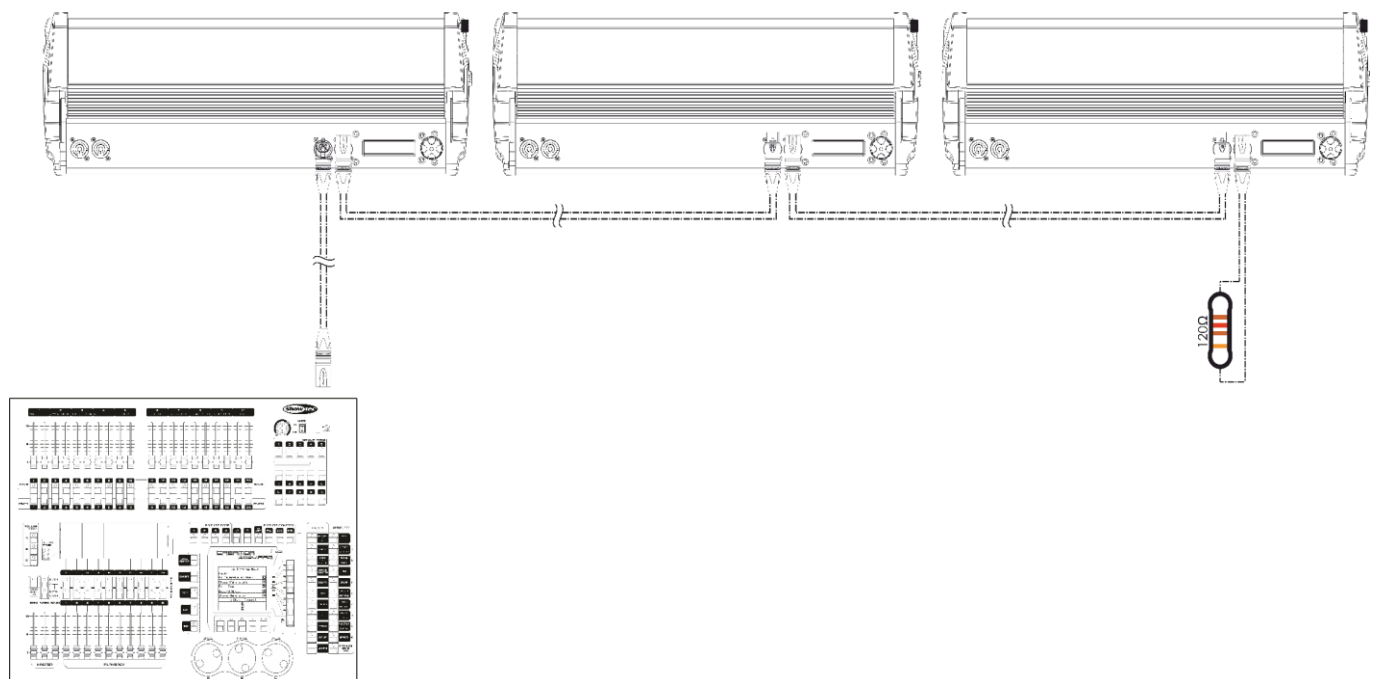

Fig. 12
- 05) Link the units as shown in fig. 12. Connect a DMX signal cable from the first unit's DMX "out" socket to the second unit's "in" socket. Repeat this process to link the second, third, and fourth units.